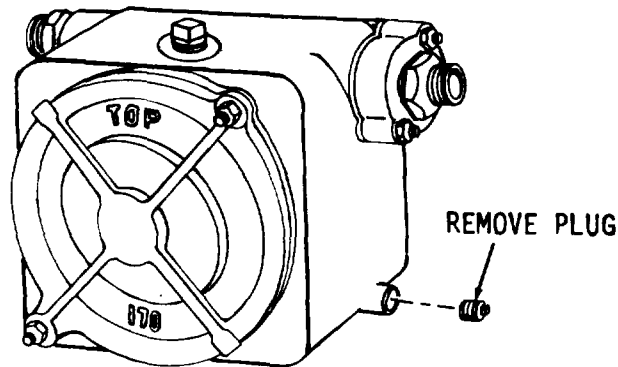

Figure 2-4. Pump draining instructions.
- g. Drain pump immediately after operation as shown in figure 2-4.